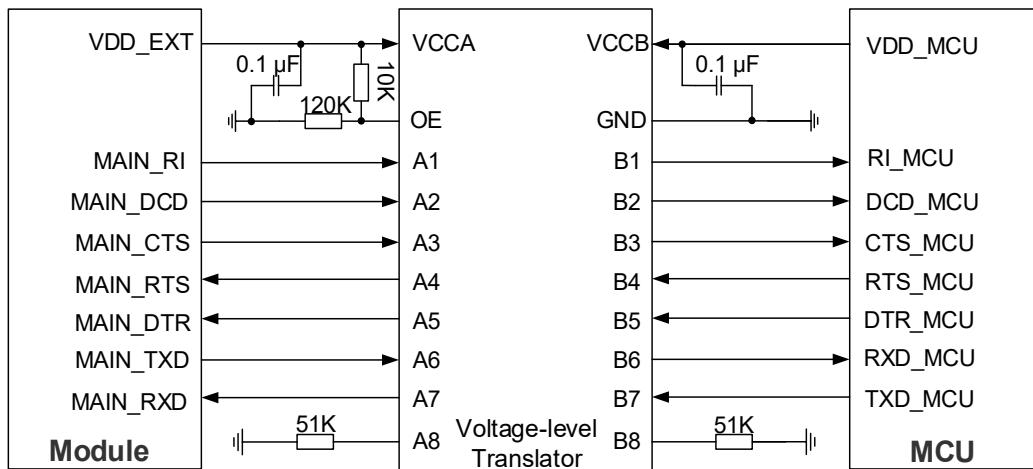
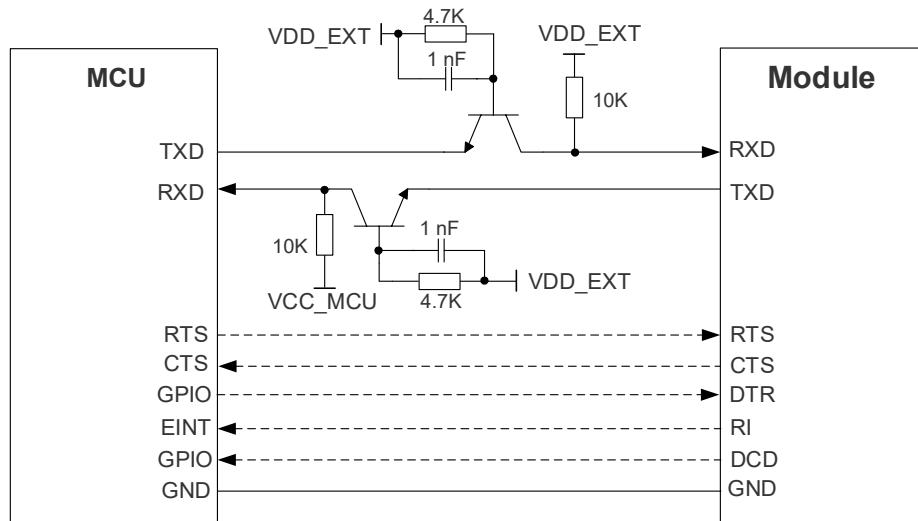

Figure 21: Reference Circuit with Translator Chip (Main UART)
Figure 22: Reference Circuit with Transistor Circuit (Main UART)
- The level-shifting circuits (**Figure 21** and **Figure 22**) take the main UART as an example. The circuits of the debug UART are connected in the same way as the main UART.